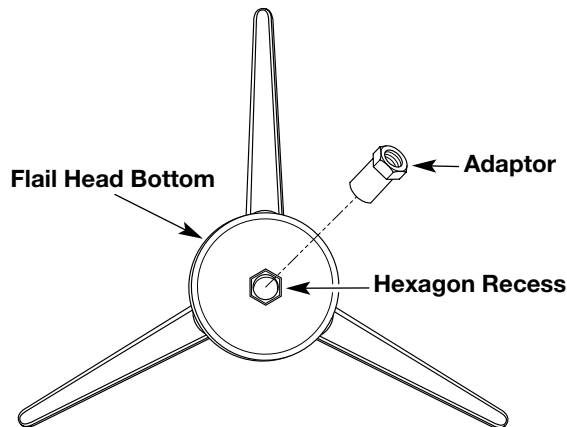

Fig. 8
4. Slide the Adapter flush into the hexagonal recess of the Flail Head Bottom (Fig. 8).